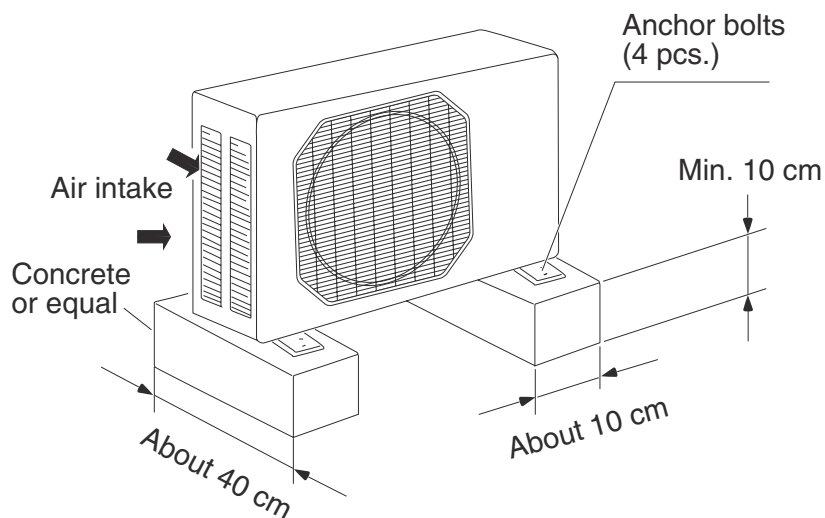

Fig. 5
- allow enough room around the unit for air intake/exhaust and possible maintenance. (Fig. 5)